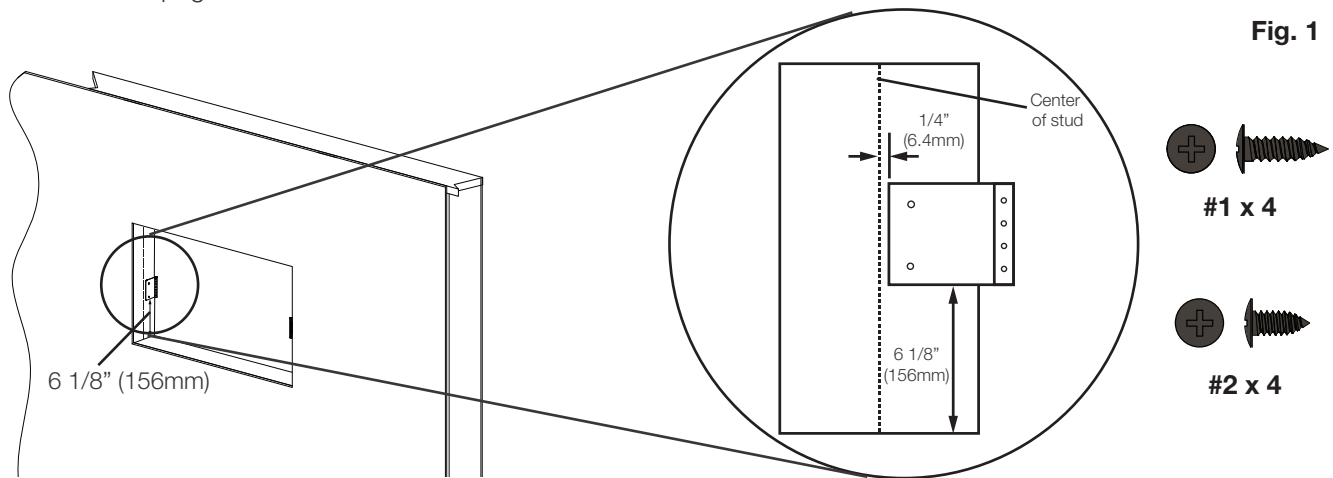

Fig. 1
- D. Install mounting bracket by aligning the edge 1/4" (6.4mm) from the center of the wall sides and 6 1/8" (156mm) from the bottom of the wall sides (**Fig. 1**). Use the mounting bracket installation template on the next page.